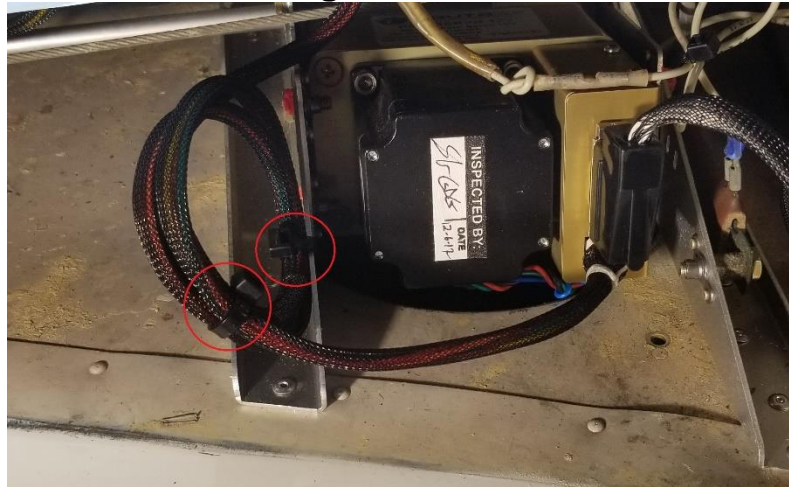

Figure 3-17
14. Secure right angle DB9 connector to pitch servo as seen in figure 3-17.
15. Insert Microfit cable into into mating connector on servo as seen in figure 3-17.